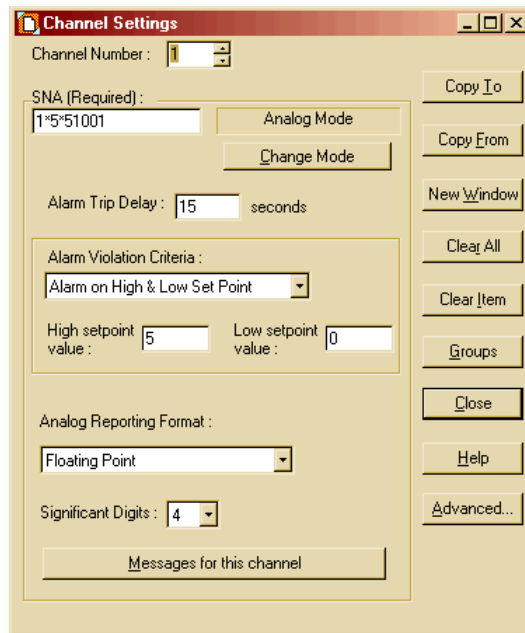

Figure 6: Channel 1, Turbidity
6. Select **Channels** from the **Configuration** menu and configure **Channel 1** as shown in **Figure 6** for **Turbidity** by first entering the SNA.